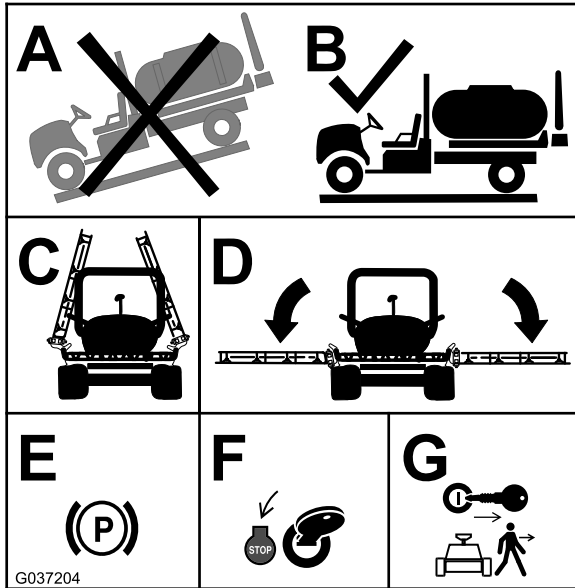

Figure 1
1. Move the machine to a level surface (A and B of Figure 1).
2. Lower the outer-boom sections (C and D of Figure 1).
3. Set the parking brake (E of Figure 1).
4. Shut off the engine (F of Figure 1).
5. Remove the key from the key switch before leaving the machine (G of Figure 1).